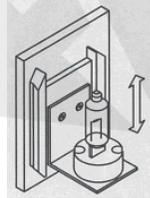

Figure 6.3 Replacing with a new light
- 4) Pull out the faulty bulb and replace it with a new one; See Figure 6.3.